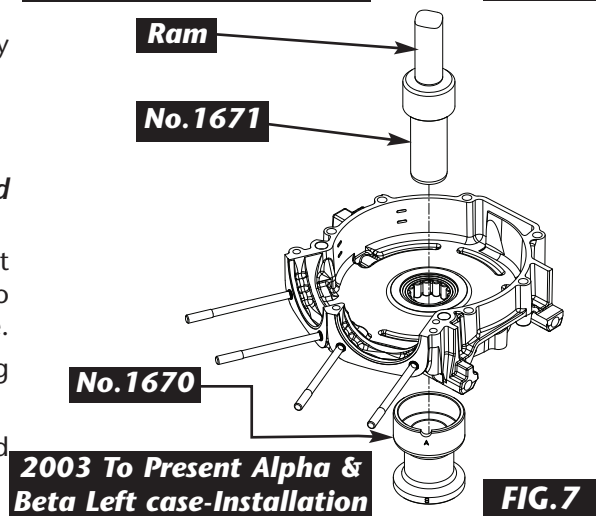

FIG.7
- Place the support No.1670 with the "A" laser marked side facing upward on a clean hydraulic press table. **See Fig 7**
position bearing bore on the support tube No.1670 with the "A" side end upward. **See Fig 7**
4. Next place the lubed small end of No.1671 pilot / driver into the lubed I.D. of the bearing and position over bearing bore. You also need to lube the leading edge of bearing before pressing into case. Note that the bearing letters should face the tool when sliding on the pilot tool. **See Fig 7**
See Fig 7